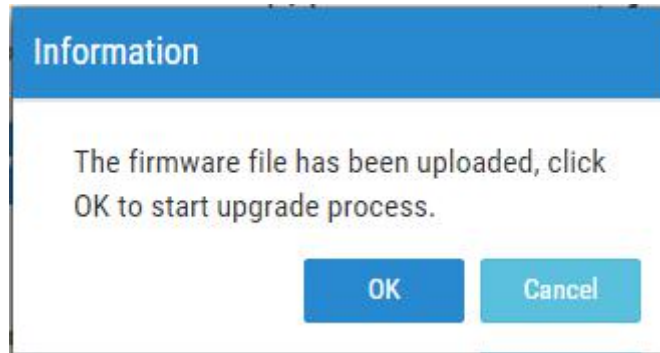

Fig. 4.5-10 System message 3
(3) After the firmware file is sent, the third system message dialog box will pop up, as shown in figure 4.5-10.